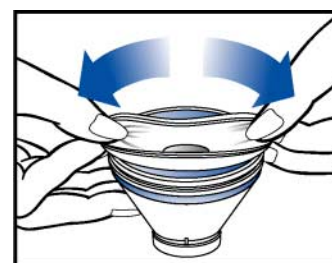

Figure 8
4. Next, reverse position of cup and fold liner into groove at large end of cup insuring liner is not twisted in nipple channel. See **Figures 8 & 9**.